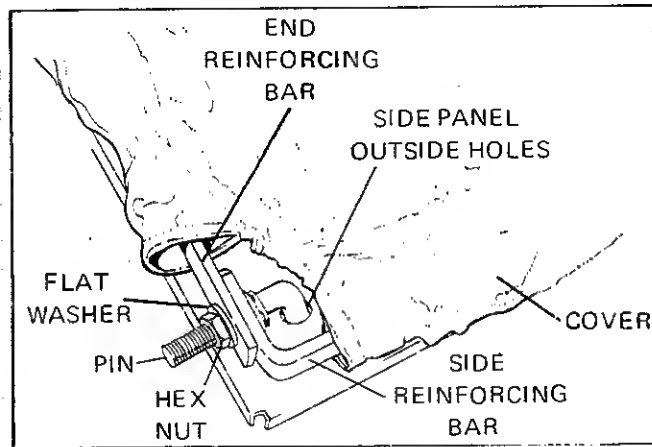

FIGURE 14
3. Align reinforcing bar holes and flat washer. From inside, insert pin through holes and secure bars and washer with a hex nut (Figure 14). Repeat procedure for all four corners.
6. Lay cover assembly on cart with canvas side flaps inside and cover nozzle toward cart drawbar. Be sure pins are inserted completely into side panel outside holes (Figure 14).